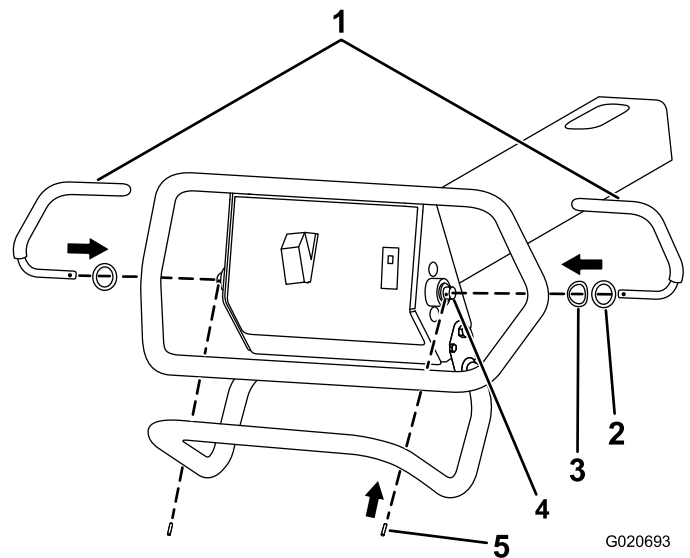

Figure 7
1. Insert a bail into the left end of the pivot shaft (Figure 7).
2. Align the hole in the bail with the hole in the pivot shaft (Figure 7).
3. Insert the roll pin into the holes of the bail and the pivot shaft (Figure 7).
4. Insert a bail into the right end of the pivot shaft (Figure 7).
5. Align the hole in the bail with the hole in the pivot shaft (Figure 7).
6. Insert the roll pin into the holes of the bail and the pivot shaft (Figure 7).